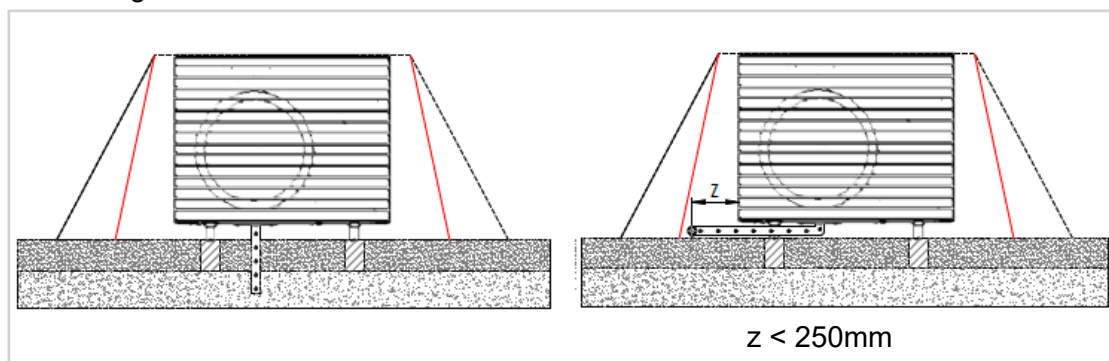

figure 9 - Evacuation dans un lit de gravats ou de gravier
If the appliance is installed in a region where the temperature may fall below 0 °C for long periods, fit the condensate drain hose with a trace heater to prevent it from icing over (see Figure 9 page 38).
- Installation under a shelter or an alcove causes the unit's performances to drop. To limit this drop, an alcove must have 2 open opposite faces in the axis of the fan. If due to location, the open sides cannot comply with this rule, provide a removable enclosure around the unit to separate the air inlet and outlet. A gutter or drain should be installed to drain condensation water (see Figure 9 page 38).